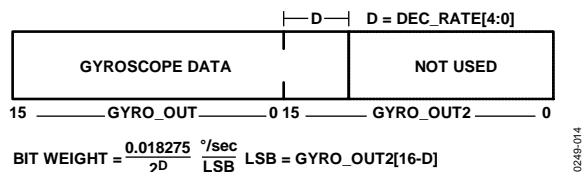
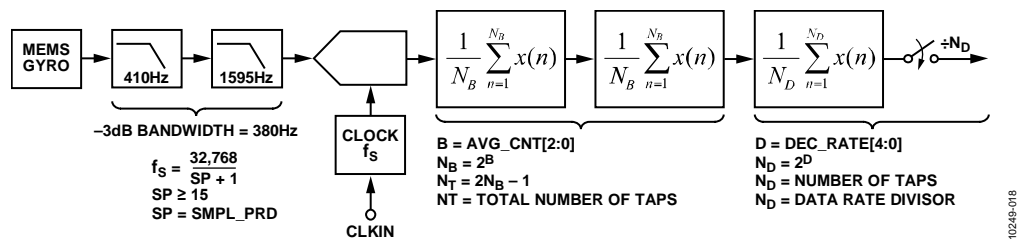

Figure 14. Gyroscope Output Format, DEC\_RATE[4:0] > 0
Figure 18. Sampling and Frequency Response Block Diagram
The GYRO\_OUT2 register (see Table 11) captures the bit growth associated with the decimation and FIR filters that are shown in Figure 18 using a MSB justified format. The bit growth starts with the MSB (GYRO\_OUT2[15]), is equal to the decimation rate setting in DEC\_RATE[4:0] (see Table 18), and grows in the LSB direction as the decimation rate increases. See Figure 14 for more details.
Figure 18 provides a block diagram for the sampling and digital filter stages inside the ADIS16136. Table 15 provides a summary of registers for sample rate and filter control.
[15:0]	Clock setting bits; sets $f_s$ in Figure 18
The AVG\_CNT register (see Table 17) provides user controls for the low-pass filter. This filter contains two cascaded averaging filters that provide a Bartlett window FIR filter response (see Figure 18). For example, set AVG\_CNT[7:0] = 0x04 (DIN = 0xA004) to set each stage to 16 taps. When used with the default sample rate of 1024 SPS, this establishes a -3 dB bandwidth of approximately 24 Hz for this filter.
[2:0]	Binary; B variable in Figure 18; maximum = 110 (6)
The DEC\_RATE register (see Table 18) provides user control for the final filter stage (see Figure 18), which averages and decimates the output data. For systems that value lower sample rates, this filter stage provides an opportunity to lower the sample rate while maintaining optimal bias stability performance. The –3 dB bandwidth of this filter stage is approximately one half the output data rate. For example, set DEC\_RATE[7:0] = 0x04 (DIN = 0xA204) to reduce the sample rate by a factor of 16.
[4:0]	Binary; D variable in Figure 18; maximum = 10000 (16)